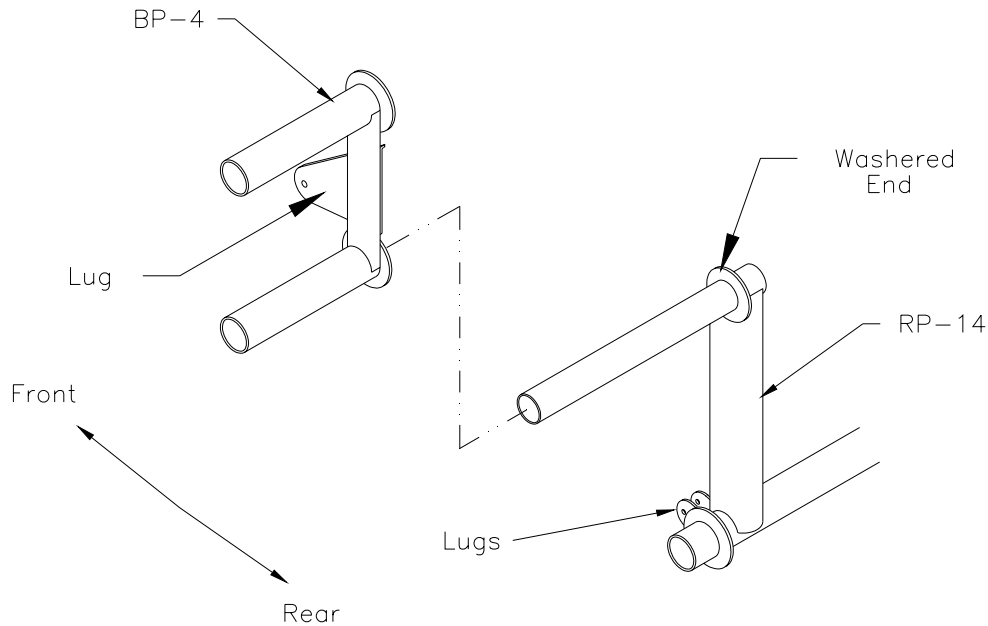

Figure 20.1.1
1) Slide the left brake pedal (BP-4) on the pedal assembly (RP-14). The lugs on the pedal and brake should face to the front of the airplane. Figure 20.1.1.